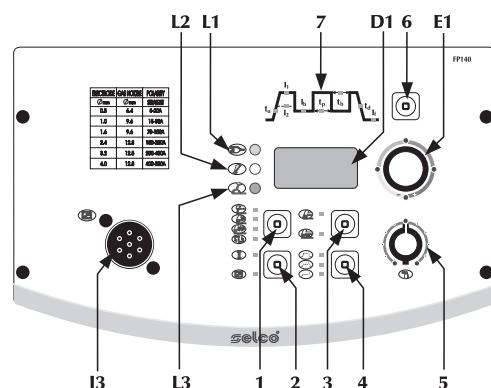

Fig.2
2.1.2 Front control panel FP140 (Fig. 2)